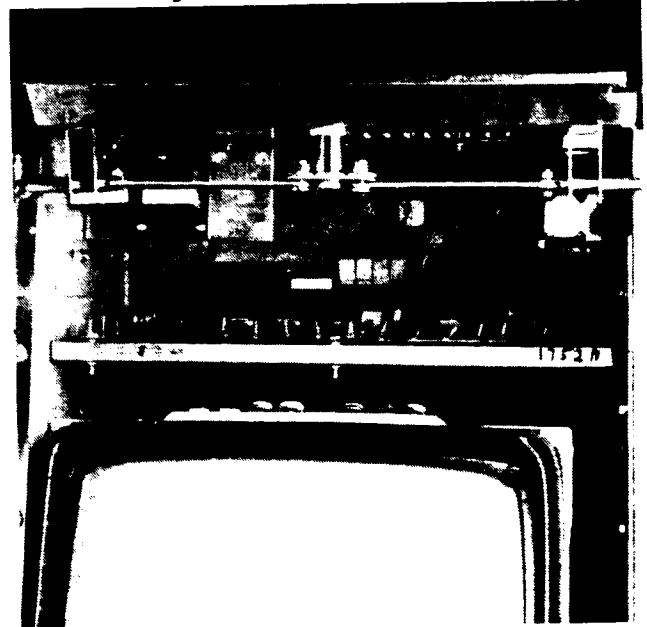

Figure 4-27
- 2) Unlock and open the security door, and return the key to the locked position to secure the door latches. See Figure 4-27.
- 3) Unplug the harness connectors from the Mother board. See Figure 4-27.